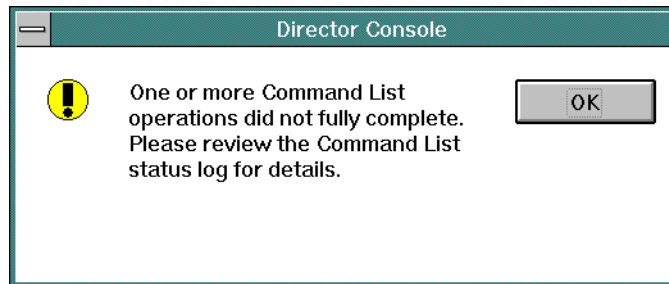

Figure 81. Command List Incomplete Message Box
- If a problem occurs during command list execution and the command list does not complete, the message box shown in Figure 81 appears.